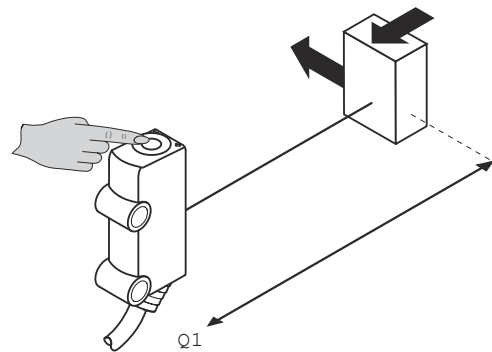

Figure 6: Sensing range setting
- 1 Position the object at the required distance and move it into the beam path of the device (note the min. and max. ranges, see figure 6, page 29).